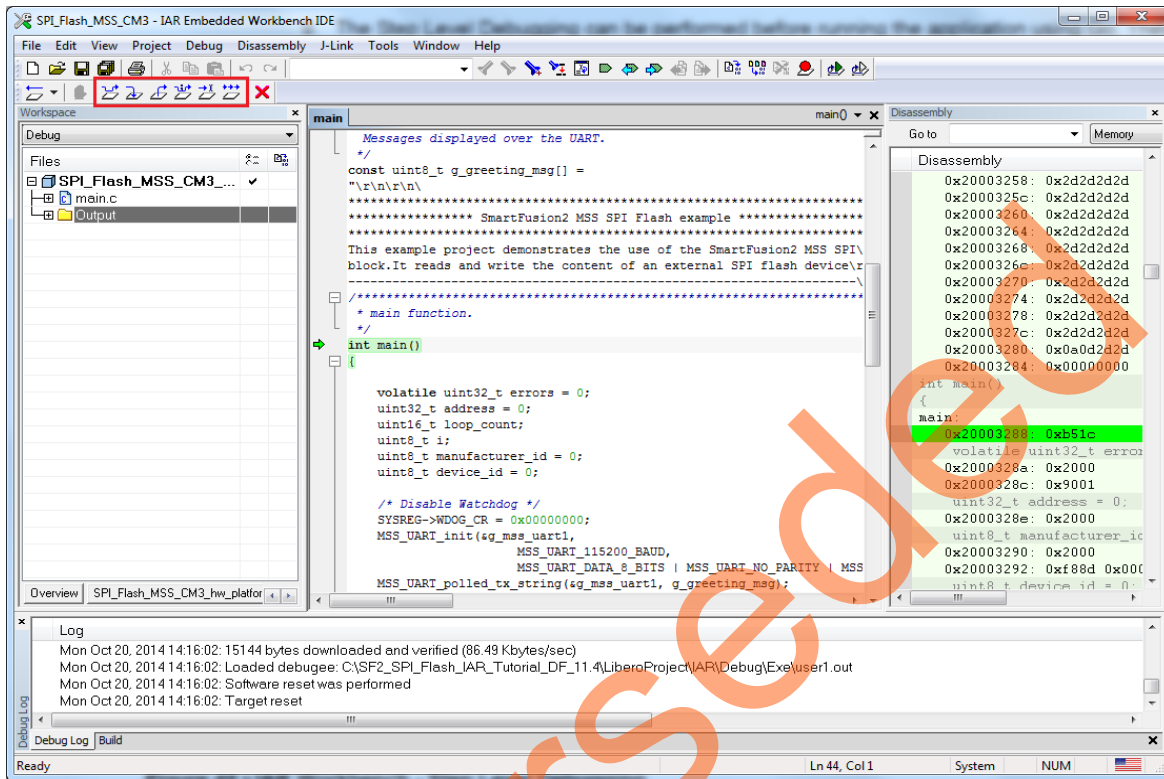

Figure 48 • IAR Workbench - Step Level Debugging
9. The Step Level Debugging can be performed before running the application using Go. These can be accessed from the Debug menu or on the IAR workbench as shown in Figure 48:
- Source code can be single-stepped by selecting from the Debug menu **Debug > Step Into**, **Debug > Step Out**, **Debug > Step Over** or selecting the respective options from the IAR workbench as shown in Figure 48. Observe the changes in the source code window and Disassembly view. Performing a Step Over provides an option for stepping over functions. The entire function is run but there is no need to single-step through each instruction contained in the function.